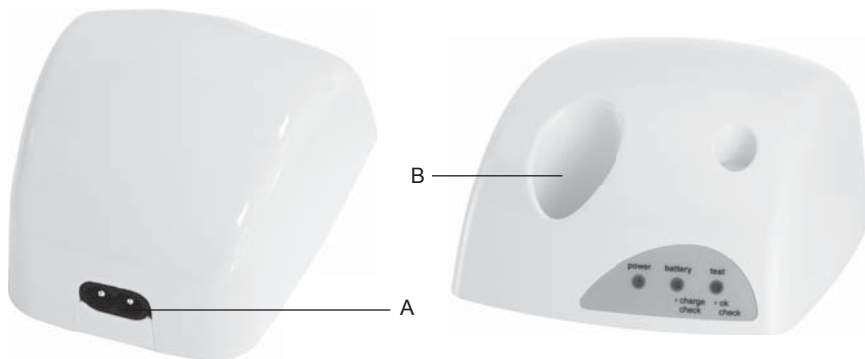

Fig. 5
⚠ DANGER: Do not short circuit the electric contacts of the charging unit with metal objects (Fig.5 - Ref.B) and do not touch them with your hands while the equipment is switched on.
- 2 Plug the power cable (Fig.3 - Ref.E) into the connector on the rear of the equipment (Fig.5 - Ref.A) and then into the power outlet. The green power LED should light up (Fig.4 - Ref.A).
- 1 Insert the handpiece into its housing in the charging unit (Fig.5 - Ref.B). The green battery LED will light up (Fig.4 - Ref.B).
- 1 Place the handpiece in its housing in the charging unit (Fig.5 - Ref.B). The green battery LED will light up (Fig.4 - Ref.B).
After the end of the treatment, place the Starlight pro handpiece back into the charging unit (Fig.5 - Ref.B).